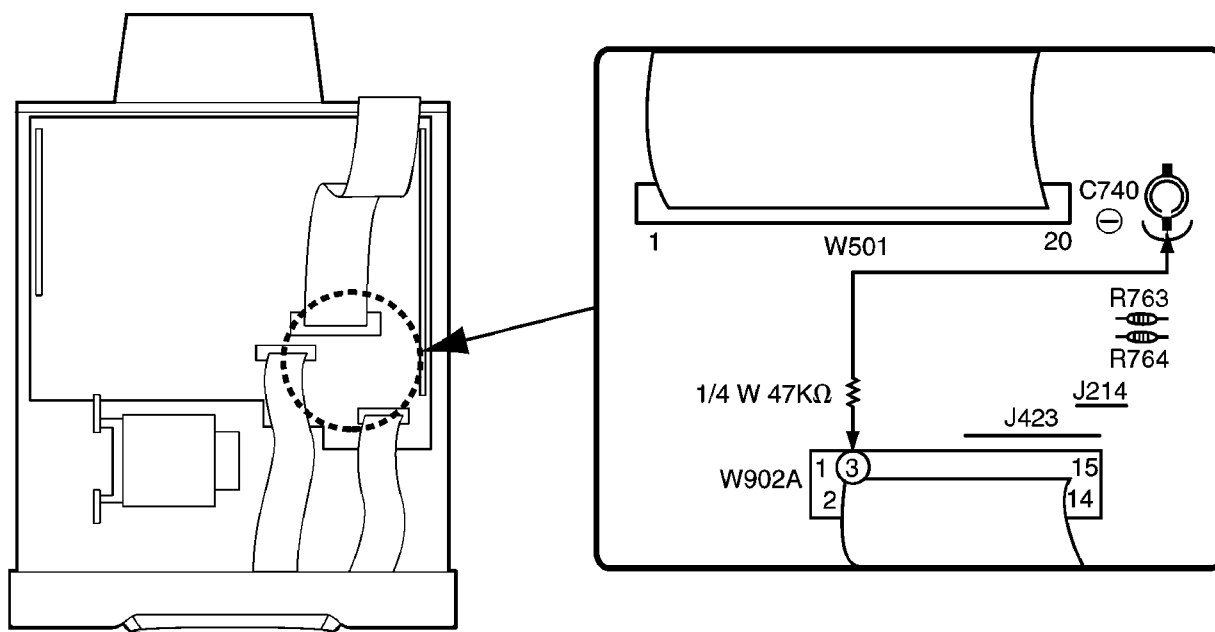

Fig. 7-2.
1. Short the section between **W902A Pin 3** and **C740 (-) (GND)**. (Refer to Fig. 7-2.)